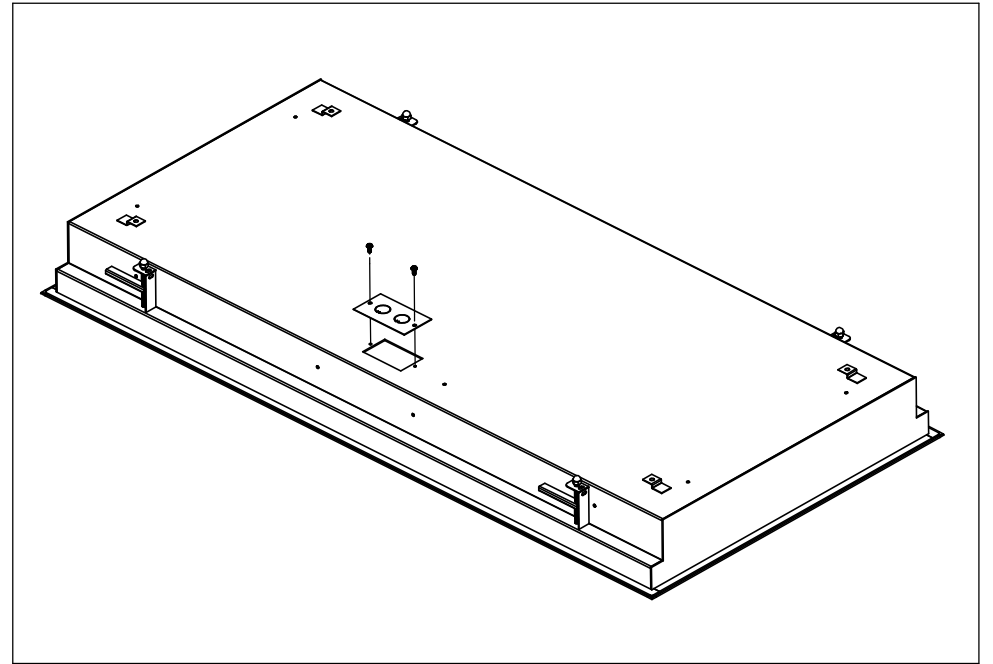

Figure 2
2. Remove Access Cover Panel, make all necessary electrical connections and re-attach Access Cover Panel (Fig. 2)